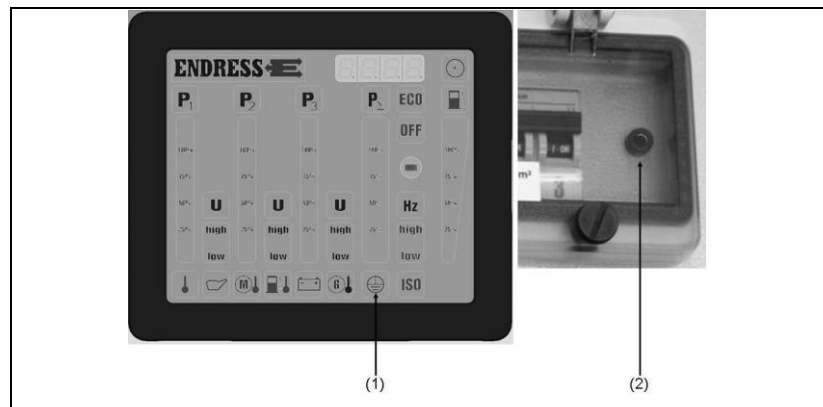

Figure 4-6: Check the protective conductor
1. Insert test cable into socket (Figure 4-6-(2)).
- ✓ The test lamp (Figure 4-6-(1)) on the multifunction display shows the result: